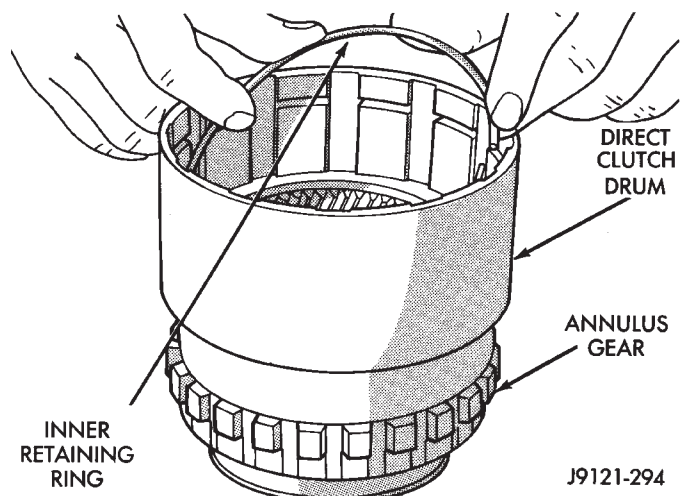

Fig. 39 Installing Clutch Drum Inner Retaining Ring
(7) Align and install clutch drum on annulus gear (Fig. 39). Be sure drum is engaged in annulus gear lugs.
(9) Slide clutch drum forward and install inner retaining ring (Fig. 39).